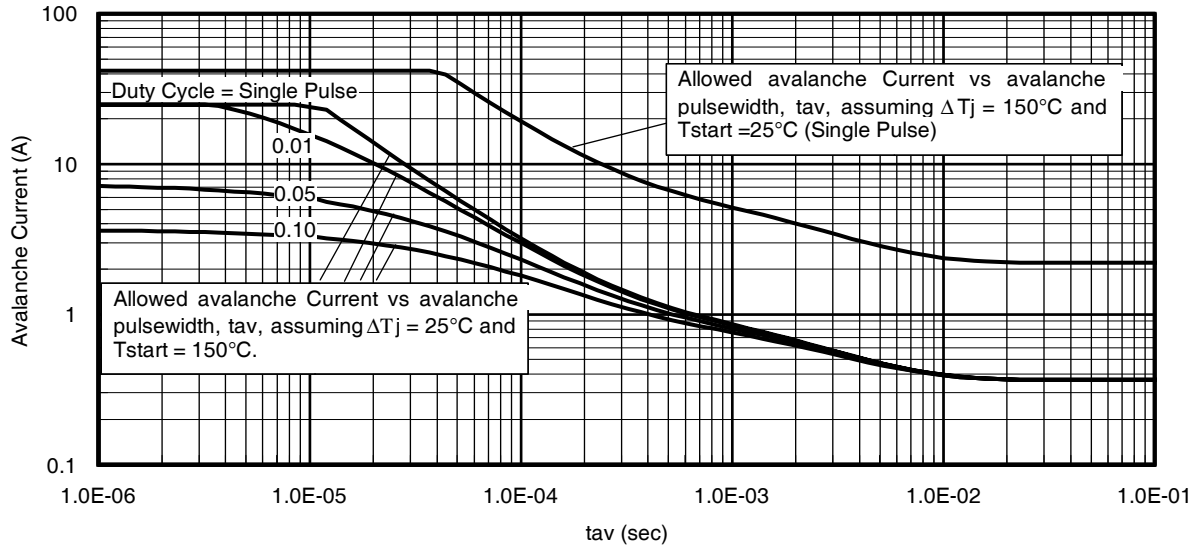

Fig 15. Typical Avalanche Current vs.Pulsewidth
**Notes on Repetitive Avalanche Curves , Figures 15, 16:
7.  $\Delta T$  = Allowable rise in junction temperature, not to exceed  $T_{jmax}$  (assumed as 25°C in Figure 15, 16).